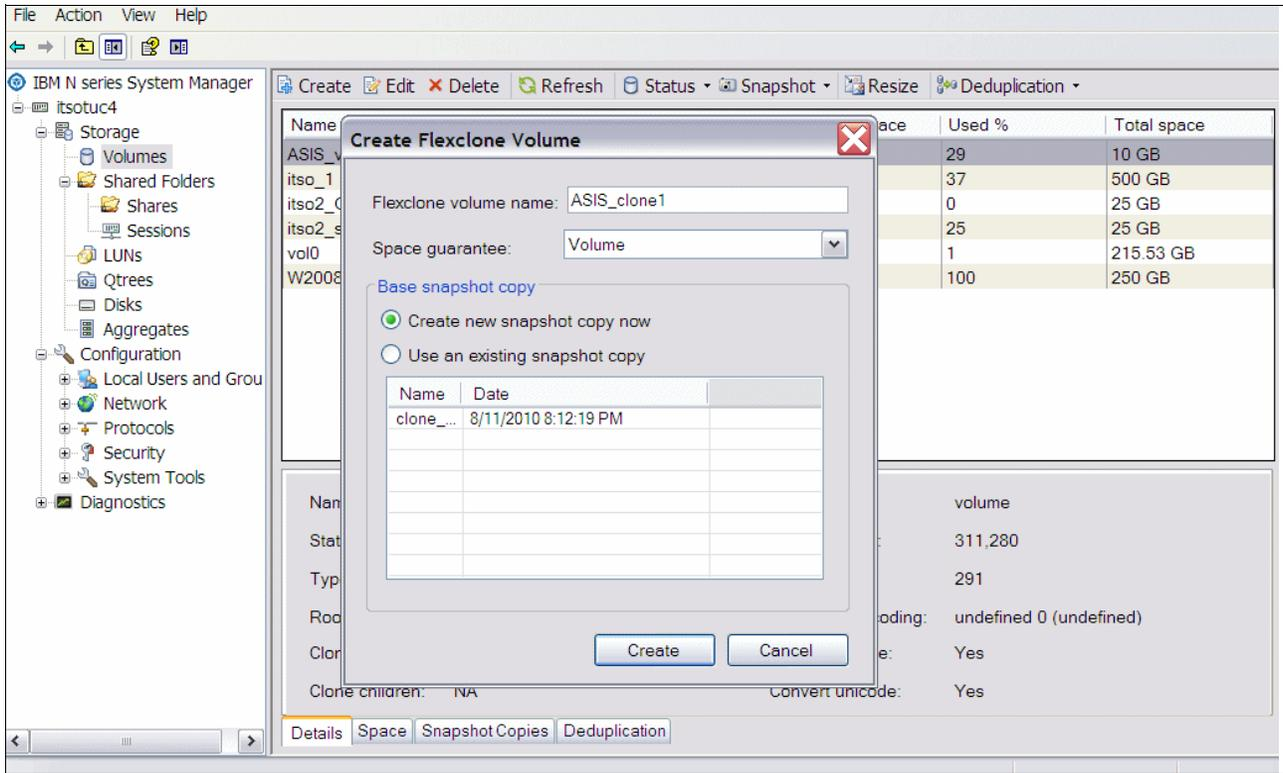

Figure 7-14 FlexClone creation
2. Choose the name of the clone volume and decide which copy will be the base snapshot for the relationship. We chose to create a new snapshot (so the relationship is active and valid from that moment); the space guarantee is set to None because we are managing flexible volumes (Figure 7-14).